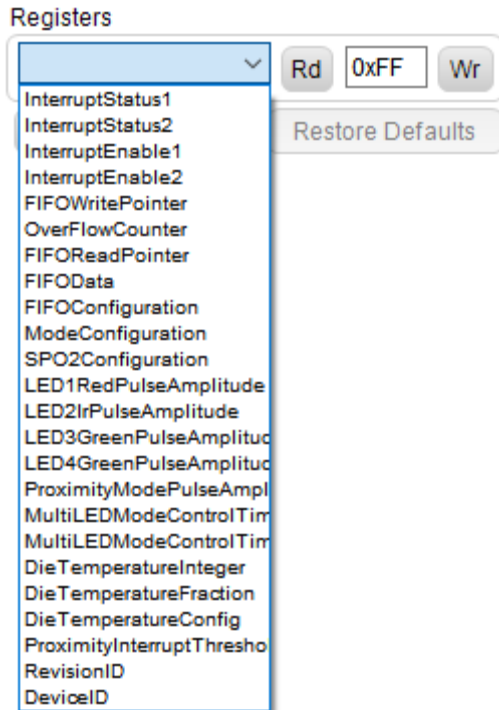

Figure 4. Accessing registers while the EV kit GUI is in operation.
Changing the GUI settings is intuitive and allows the user to experiment with them before use. However, it is important to note that if the user wants to read or write new register values, the MAX30101 GUI needs to be operational. This can be extremely useful as this provides direct access to the registers of the operational MAX30101. The user should study the MAX30101 data sheet in depth and use this user guide to optimize MAX30101 use. **Figure 4** shows how the registers can be accessed during operation followed by a recommended way of using the MAX30101 EV kit for heart rate (HR) and SpO2.